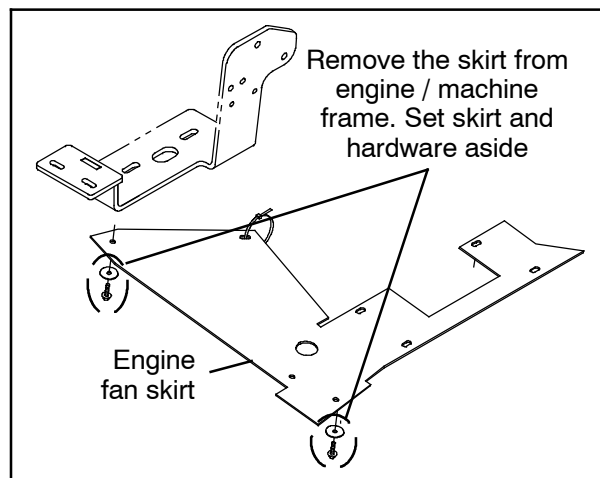

FIG. 1
3. Remove the skirt from between the engine and the frame of the machine. Set the skirt and all hardware aside. (Fig. 1)